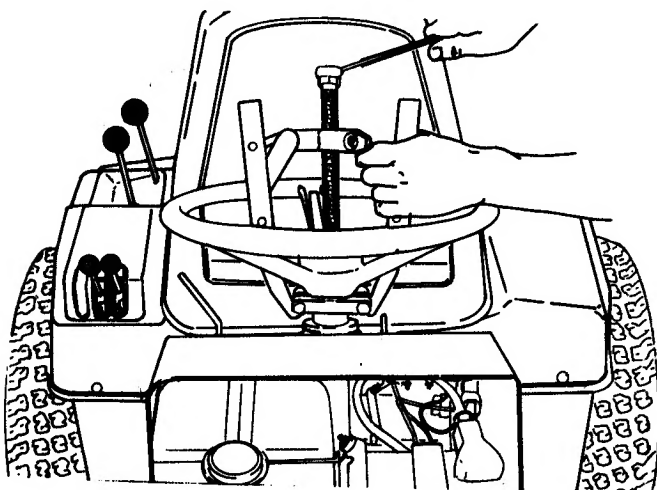

FIG. 2.15 — USE PULLER TO REMOVE WHEEL
2. Use a suitable pulley and remove steering wheel, Fig. 2.15.